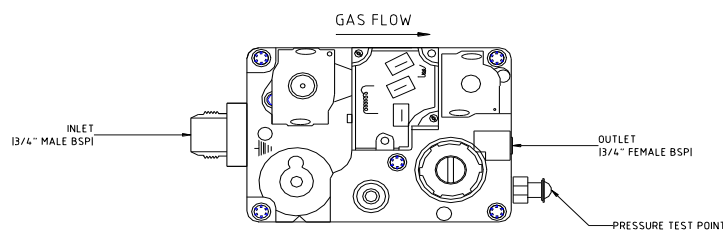

Figure 4: Gas valve connections (Note: the valve used may differ from that shown)
2. Figure 4 and is a 3/8" gland type fitting. The correct pressure for Natural Gas is 0.87 kPa for all the Super Star models in SS and HB series.